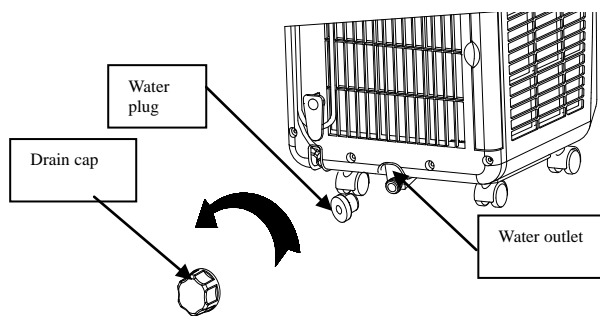

Figure 11
1). Screw off the water cap in the direction shown by the arrow on Figure 11 and unplug the water plug.